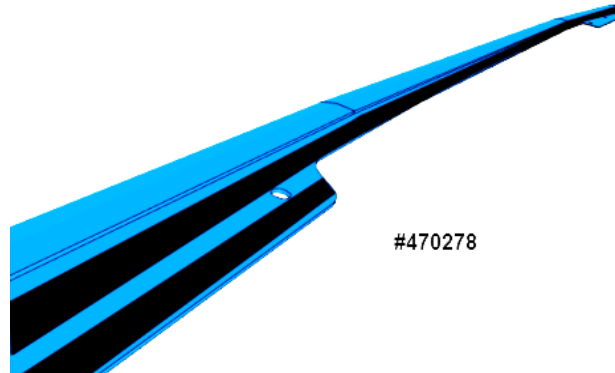

FIGURE 46
6. Apply two strips of double face self-adhesive tape, one to each side of the drilled holes (except in the middle where only one strip can be applied) along drip edge #470278 as shown on FIGURE 46.